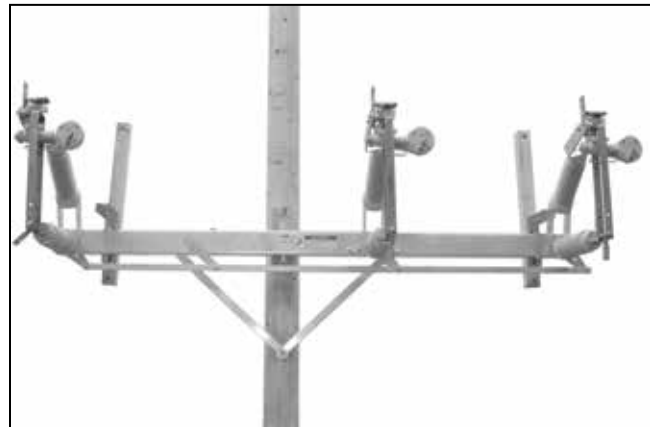

Figure 12. Attaching the crossarm braces (supplied by others) to the switch base.
STEP 10. If desired, crossarm braces (supplied by others) may be attached to the switch base. See Figure 12. Refer to the erection drawing.